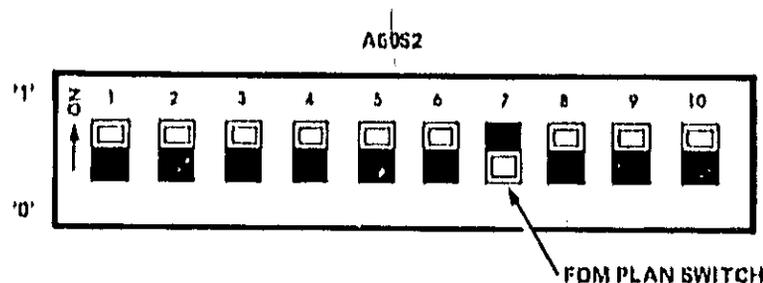

Figure 2-3 Extending FDM Plan
3. Switch A60S2(7) to the '0' position (see Figure 2-3).